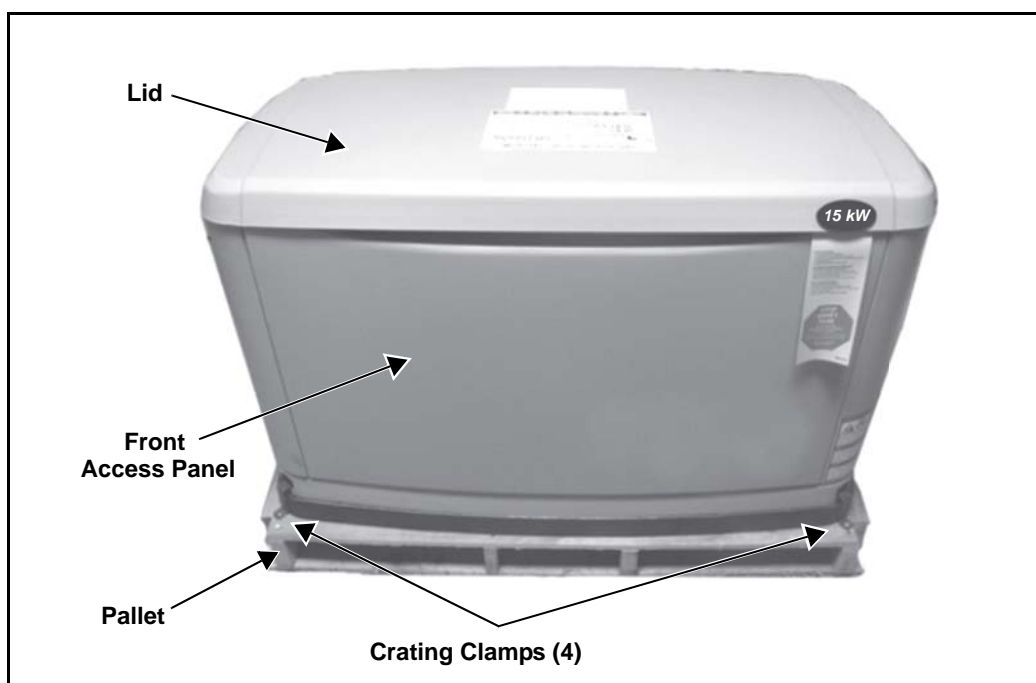

Figure 2-2. Remove Crating Clamps
2. Remove **four** bolts with crating clamps. Carefully lift the generator off the wooden pallet. Do **NOT** drag the generator off the pallet or damage to the base will occur. See Figure 2-2.